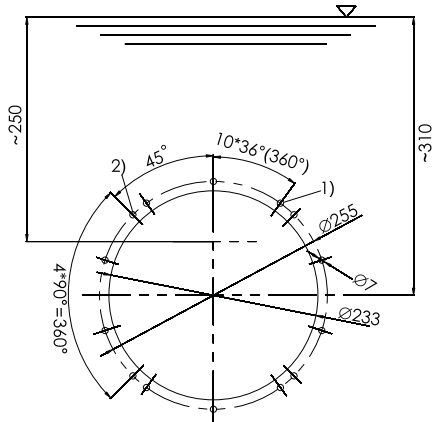

Figure 3
- Using the template drill 14 holes into the fibreglass pool shell. ( Figure 3)
- Mount the counter current jet faceplate onto the fiber pool using 10 piece of M6 screws. (Hole 1 in Figure 3)
- b) Opened the corresponding holes from inside of the cement bag and the holes should be completed with the fiber pool (figure 3).